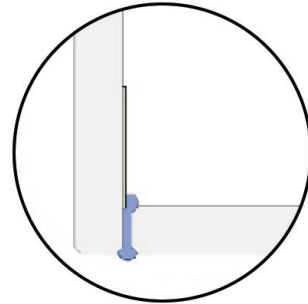

FIG 15.
- Gently place glass to glass panel into siliconed floor channel and tilt gently upwards until it joins to glass to wall panel (FIG 15). Ensure there is no side to side movement while placing panel as this will smear silicone.